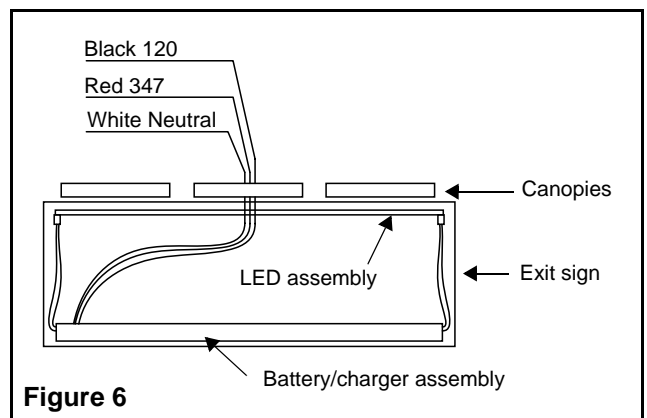

Figure 6
5. Make the proper connections (see fig. 6).
- 120 VAC** — Connect the black (120) and white (neutral) leads to the building utility.
- 347 VAC** — Connect the red (347) and white (neutral) leads to the building utility.